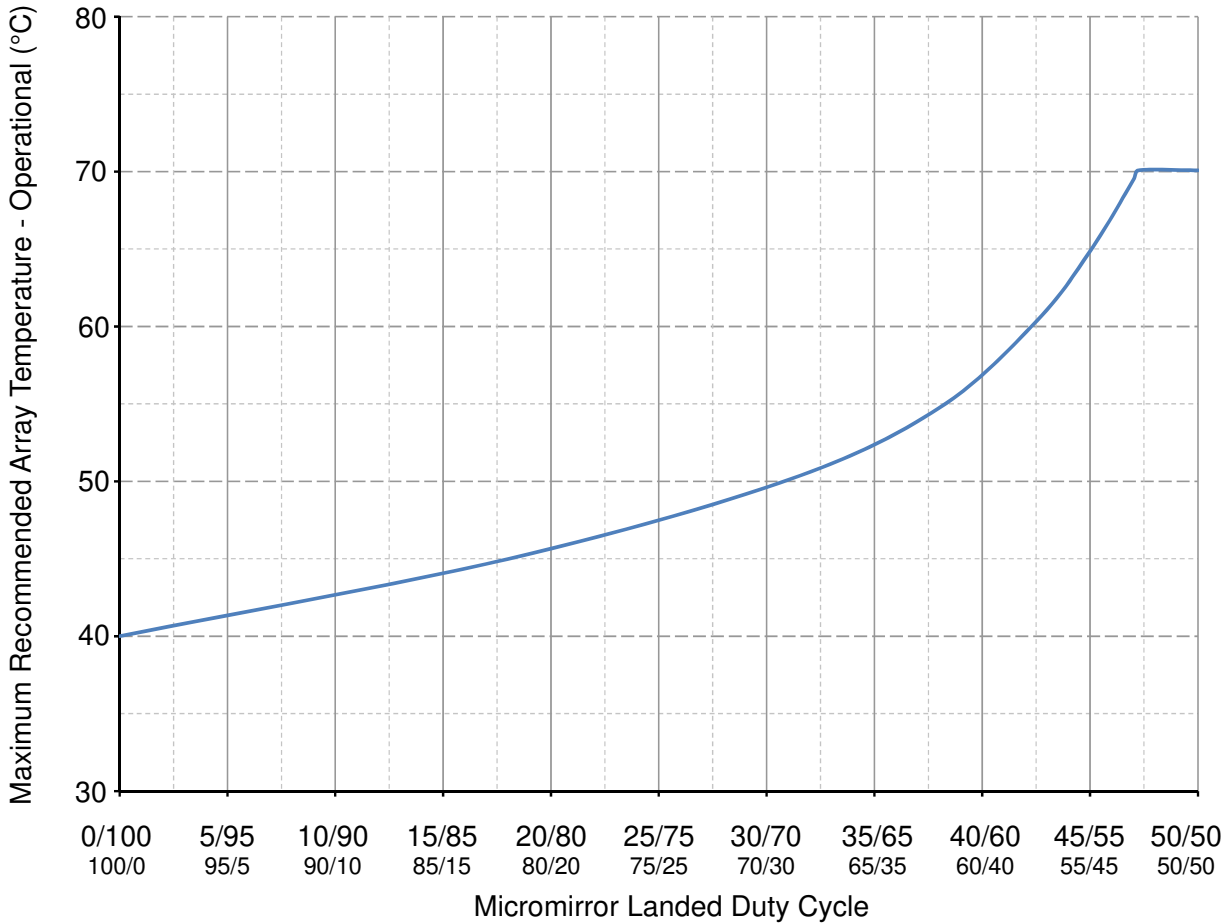

Figure 5-1. Maximum Recommended Array Temperature—Derating Curve
- (7) See the low-speed interface (LSIF) timing requirements in the Section 5.8 Timing Requirements.
- (8) See the high-speed serial interface (HSSI) timing requirements in the Section 5.8 Timing Requirements.
- (9) Simultaneous exposure of the DMD to the maximum Recommended Operating Conditions for temperature and UV illumination reduces device lifetime.
- (10) The array temperature cannot be measured directly and must be computed analytically from the temperature measured at test point 1 (TP1), shown in the Section 6.6 Micromirror Array Temperature Calculation section.
- (11) Exposure to dew point temperatures in the elevated range during storage and operation should be limited to less than a total cumulative time of CT_{ELR}.
- (12) Long-term is defined as the usable life of the device.
- (13) Short-term is the total cumulative time over the useful life of the device.
- (14) The average over time (including storage and operating) that the device is not in the elevated dew point temperature range.
- (15) The active area of the DMD is surrounded by an aperture on the inside of the DMD window surface that masks structures of the DMD device assembly from normal view. The aperture is sized to anticipate several optical conditions. Overfill light illuminating the area outside the active array can scatter and create adverse effects to the performance of an end application using the DMD. Minimizing the light flux incident outside the active array is a design requirement of the illumination optical system. Depending on the particular optical architecture and assembly tolerances of the optical system, the amount of overfill light on the outside of the active array may cause system performance degradation.
- (16) The maximum allowable optical power incident on the DMD is limited by the maximum optical power density for each wavelength range specified and the micromirror array temperature (T_{ARRAY}).
- (17) Per Figure 5-1, the maximum operational array temperature should be derated based on the micromirror landed duty cycle that the DMD experiences in the end application. Refer to Section 6.9 Micromirror Landed-On/Landed-Off Duty Cycle for a definition of micromirror landed duty cycle.